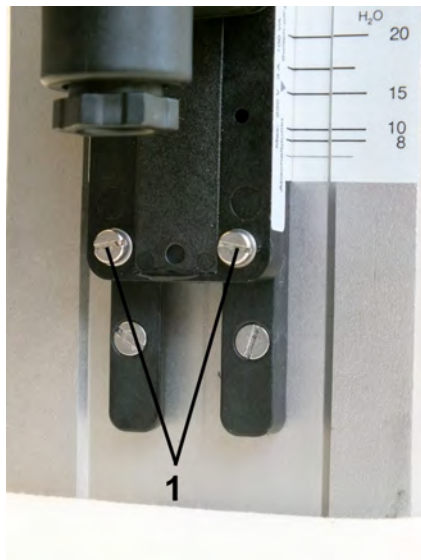

Fig. 33: Loosen set screws
1. Loosen the set screws of the switch contact (Fig. 33/1) using a flat-bladed screwdriver.
3. Tighten the set screws of the switch contact (Fig. 33/1) using a flat-bladed screwdriver. When doing so, observe the correct tightening torque of the screws.